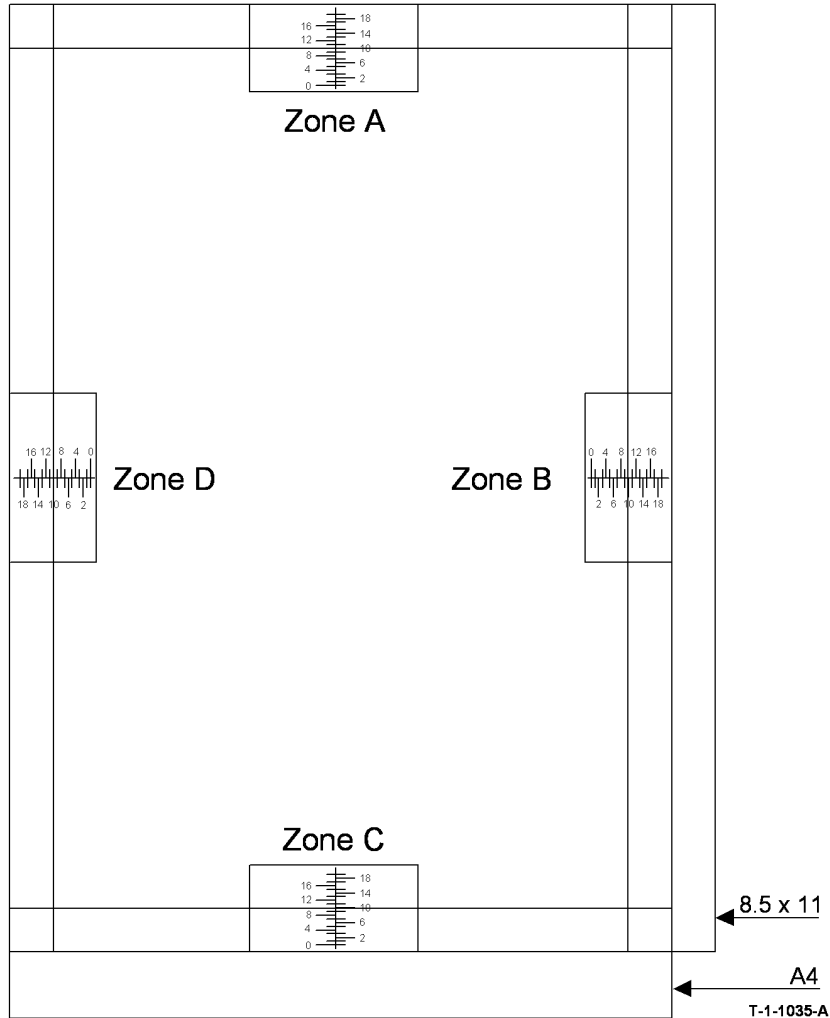

Figure 1 Registration test pattern
- *For A4 LEF paper, all edges have a 10mm deletion, but the bottom edge (Zone C on Figure 1) will measure 28mm from the edge of the paper.*
- *For 8.5 x 11 LEF paper, all edges have a 10mm deletion, but the trail edge (Zone B on Figure 1) will measure 16mm from the edge of the paper.*